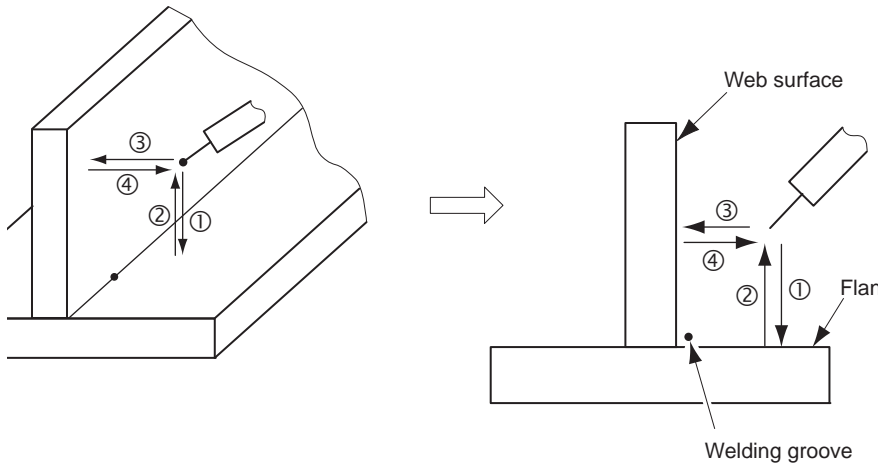

Fig. 1-1: Starting Point Detection
The manipulator moves to positions ① through ④ as shown in Fig. 1-1 to find the points where the wire touches the base metal. It then calculates the difference between the taught and actual positions of the flange and the web, and finds the welding groove.